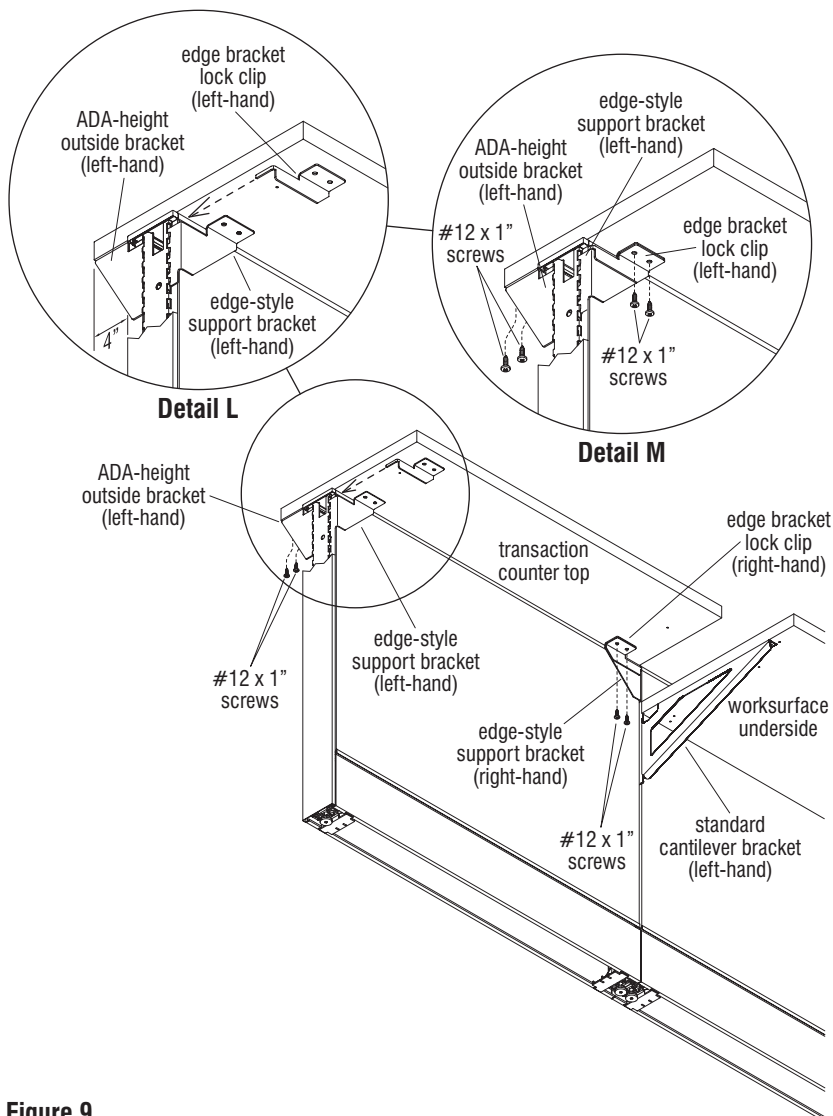

Figure 9
- Position a left-hand lock clip as illustrated (Detail L) and insert the thin prong end of the clip into the top panel notch, just above the top tooth of the left-hand edge-style support bracket. Fully inserted properly, the two mounting holes of the lock clip will align over the two mounting holes in the edge-style bracket. Insert and tighten two #12 x 1" screws to secure the clip over the edge-style support bracket, and into the transaction countertop (Figure 9, Details L & M).
- Repeat step 4 above for the right-hand lock clip to the right-hand edge-style support bracket. Check and assure that all four mounting screws are tight. The transaction countertop should be snug and no movement should be felt (Figure 9, Details L & M).
- Position a left-hand lock clip as illustrated (Detail P) and insert the thin prong end of the clip into the top panel notch, just above the top tooth of the left-hand edge-style support bracket. Fully inserted properly, the two mounting holes of the lock clip will align over the two mounting holes in the edge-style bracket. Insert and tighten two #12 x 1" screws to secure the clip over the edge-style support bracket, and into the corner transaction countertop (Figure 9, Details L & M).